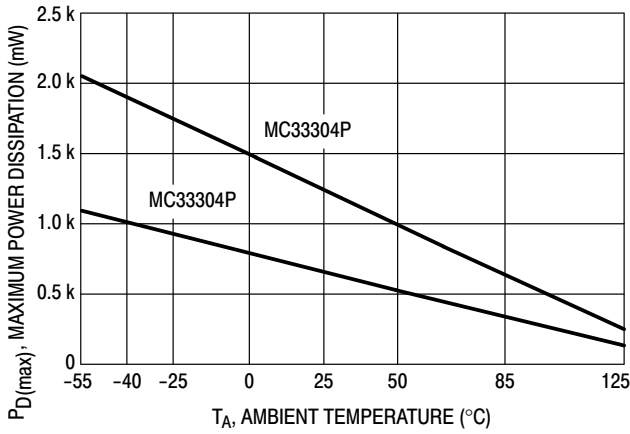

Figure 2. Maximum Power Dissipation versus Temperature
- Power dissipation must be considered to ensure maximum junction (T_J) is not exceeded. (See Figure 2)